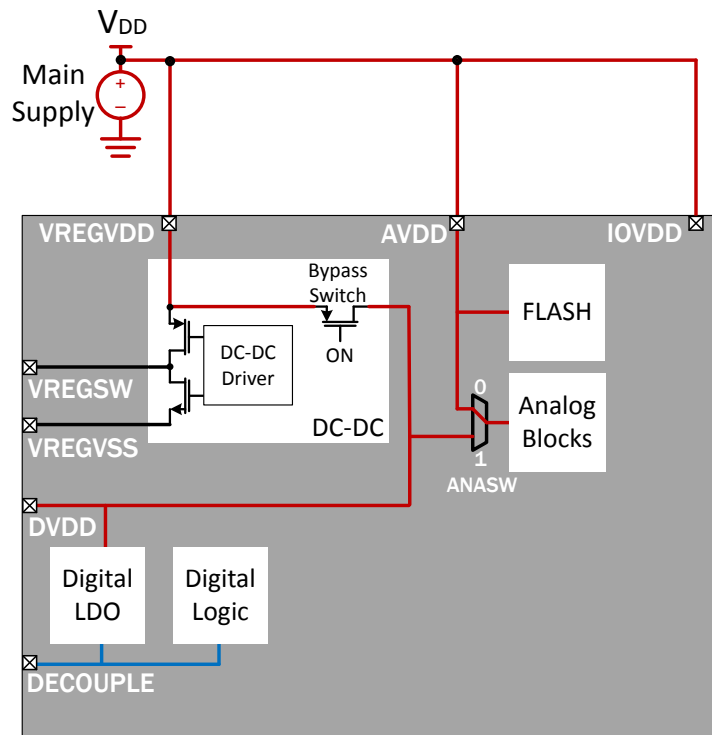

Figure 3.1. EFM32xG1 and EFR32xG1 Startup Configuration
**Note:** Figure 3.1 EFM32xG1 and EFR32xG1 Startup Configuration on page 11 is only provided to show the device startup default supply configuration; it is **not** a usable application configuration.